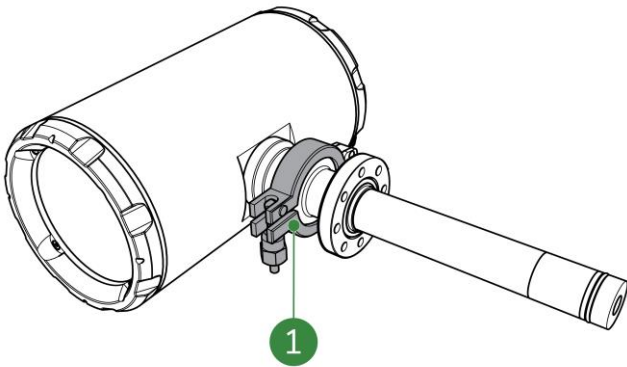

Figure 9-2: Tri-clamp on transmitter
5. Measure the resistance of the transmitter connection points. The resistance is overload. Measure between the inner and outer connection point (Figure 9-2, pos. 1 and 2).